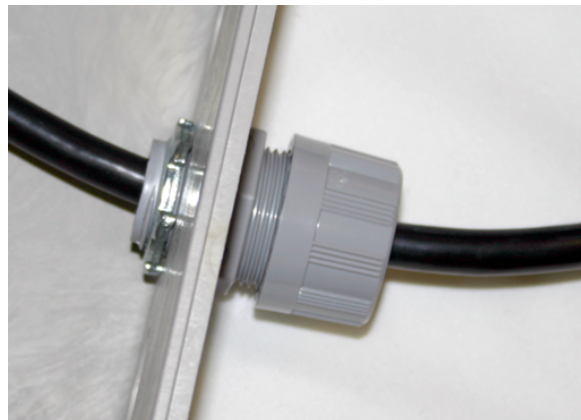

Figure 2-20 Position and secure the cable
7. Tighten the cord grip sealing nut (Figure 2-20).